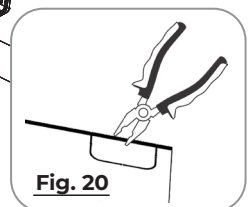

Fig. 20
3. **Optional:** If the PC Conduit Bracket or Surface Conduit Bracket is installed, use pliers to remove the appropriate knockout located on the top of the cover. (Fig. 20)